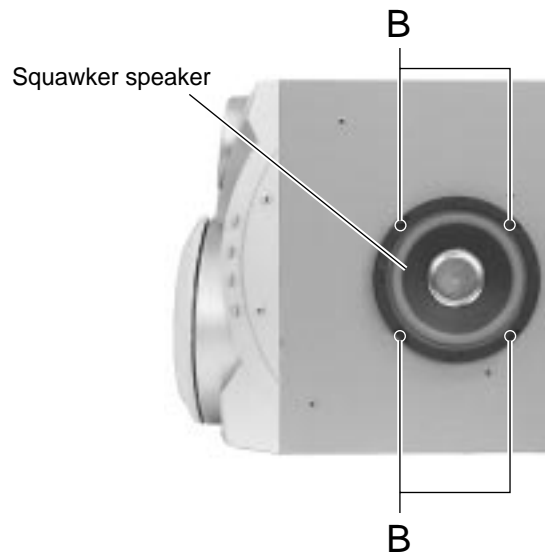
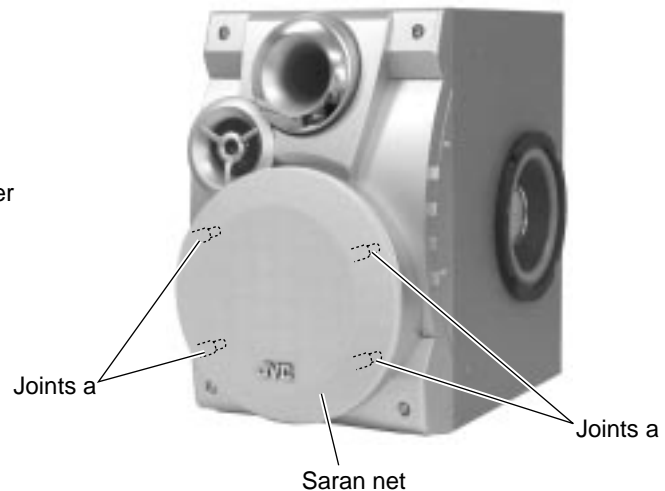

Fig.2
Fig.3
2. When the flywheel R is rotated in counterclockwise direction, the playback / recording & eraser head will be turned in counterclockwise direction from the position in Fig.2 to that in Fig.3.
● Reassembling the playback, recording and eraser heads (See Fig.3)
1. Reassemble the playback head from the front of the head mount to the position as shown in Fig.3.
4. Attach the flexible P.C.board to the chassis base as shown in Fig.3.
■ Removing the squawker speaker (See Fig.2)
■ Removing the front cover (See Fig.3 to 6)